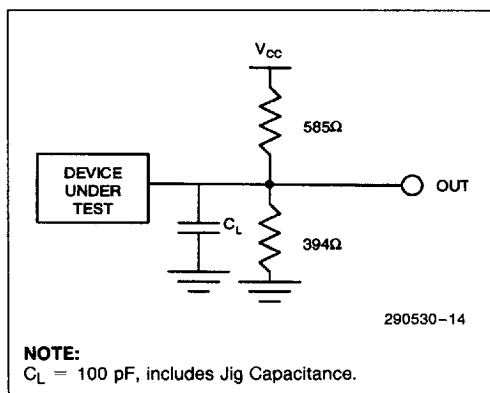

Figure 26. 5V Standard Test Configuration
5. 5V Standard Test Configuration. (Figure 26)